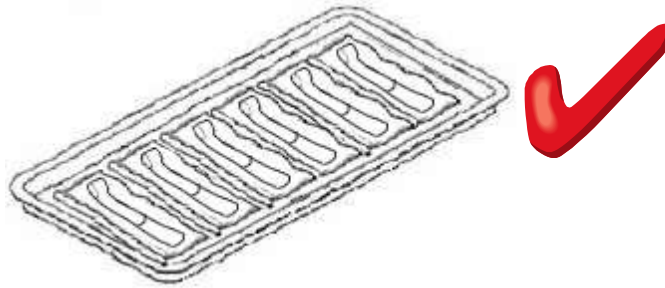

Figure 40
**WARNING:** To perform sterilization for pouched handpiece(s) loaded on the tray as shown in Figure 40.